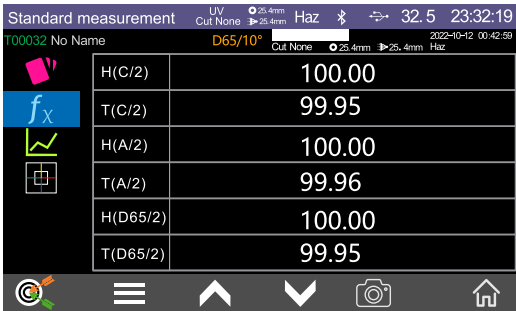

Figure 23 Haze measurement
6、 According to the measurement prompts , perform the operation, and the haze measurement can be completed.the haze data will displayed in the interface, as shown in Figure 23.